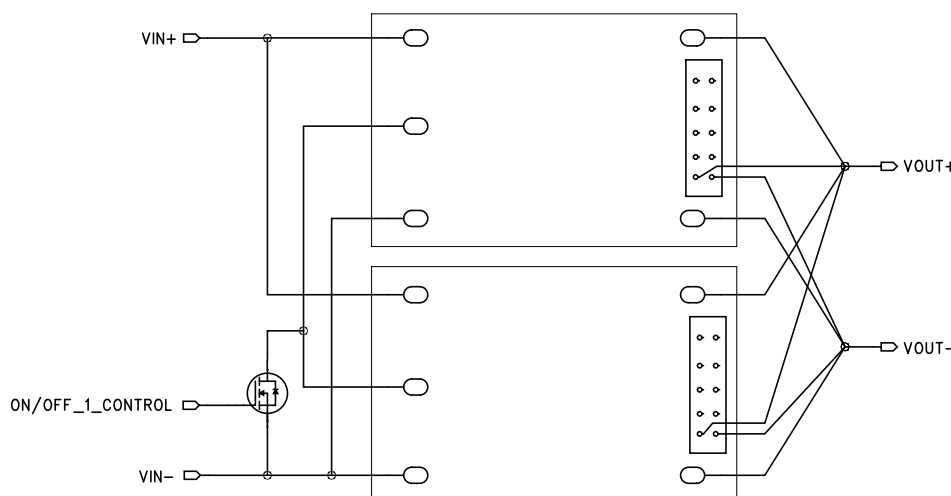

Figure 2. Load Sharing Block Diagram
Two or more converters may be connected in parallel at both the input and output terminals to support higher output current (total power, see figure 2) or to improve reliability due to the reduced stress that results when the modules are operating below their rated limits. For applications requiring current share, followed the guidelines below. The products have a pre-configured voltage droop. The stated output voltage set point is at no load. The output voltage will decrease when the load current is increased. The voltage will drop droop 0.35V while load reaches max load. Our goal is to have each converter contribute nearly identical current into the output load under all input, environmental and load conditions.
- +Vout and –Vout of all parallel units should be connected with a balance output impedance; +Sense and –Sense should be connected together (see figure 2).